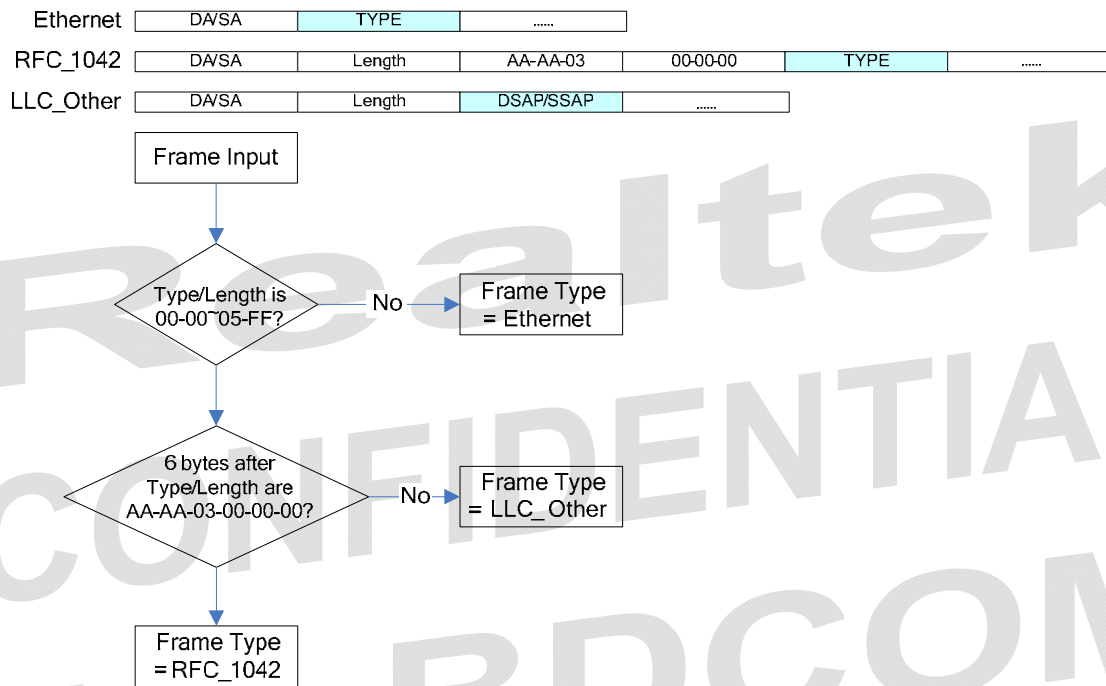

Figure 7. Protocol-Based VLAN Frame Format and Flow Chart
The RTL8370(M) supports a 4-group Protocol-based VLAN configuration. The packet format can be RFC 1042, LLC, or Ethernet, as shown in Figure 7. There are 4 configuration tables to assign the frame type and corresponding field value. Taking IP packet configuration as an example, the user can configure the frame type to be 'Ethernet' and value to be '0x0800'. Each table will index to one of the entries in the 4K-entry VLAN table. The packet stream will match the protocol type and the value will follow the VLAN member configuration of the indexed entry to forward the packets.